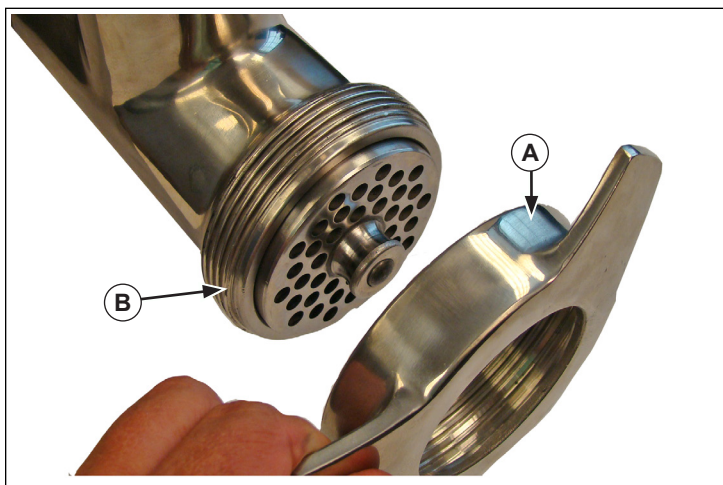

Figure 7. Coupling Cover and Grinder Chamber
- If a sausage filler is to be used, place it between the coupling cover (A) and the grinder chamber (B). See Figure 7.
- Unscrew and remove the coupling cover (A) from the grinder chamber (B). See Figure 7.